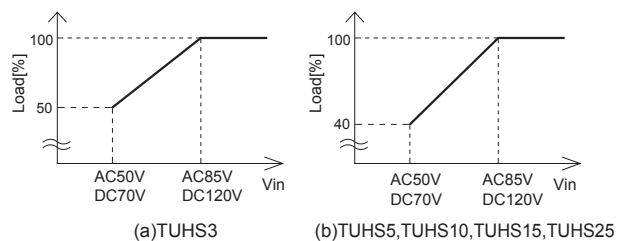

Fig.4.1 Input voltage derating
■ In case of less than AC85V or DC120V, it is possible to operate continuously by input voltage derating as shown Fig.4.1.